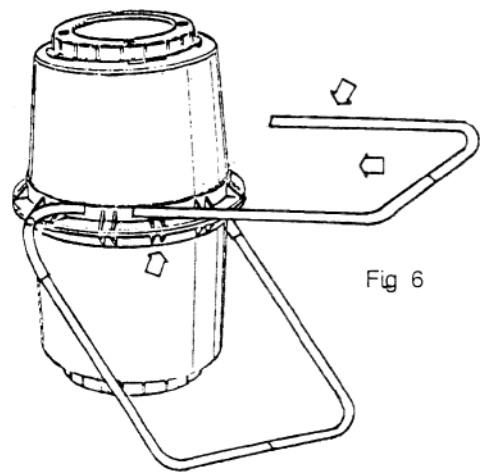

Fig 6
6. Fit second leg set to elbows using same method, see Fig. 6.